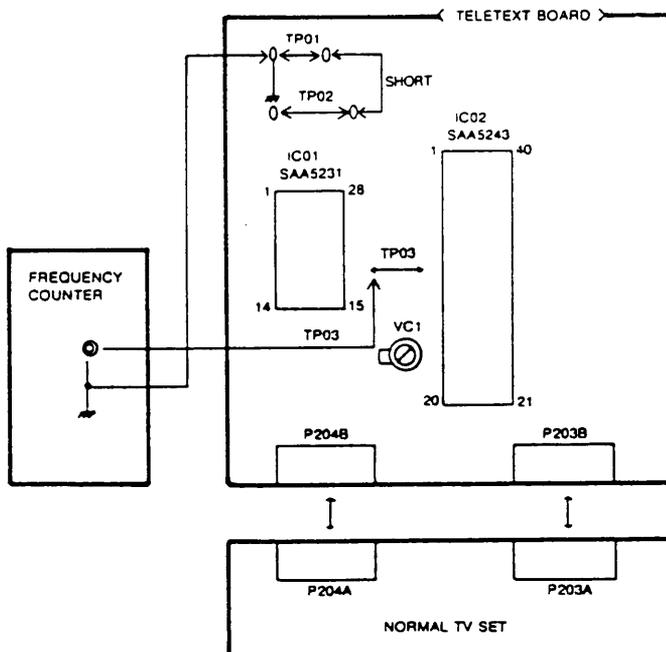

Fig 12. Connection Diagram of the Instruments
- 3) Connect frequency counter to the TP03 on the TXT board and short TP01 and TP02 together. (Fig. 12)